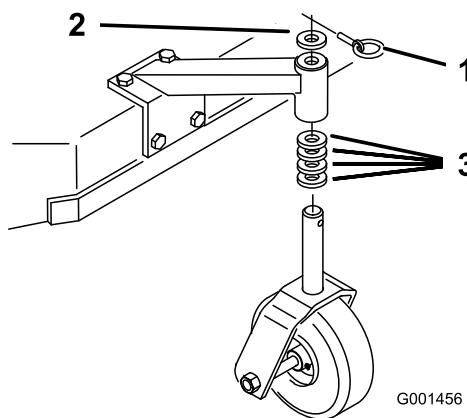

Figure 13
1. Using the Height-of-Cut Chart, adjust the caster spacers to match with the axle hole selected (Figure 13).
2. Remove the latch pin, slide the caster from the support, and change the spacers (Figure 13).
3. Install the caster in the support and insert the latch pin (Figure 13).